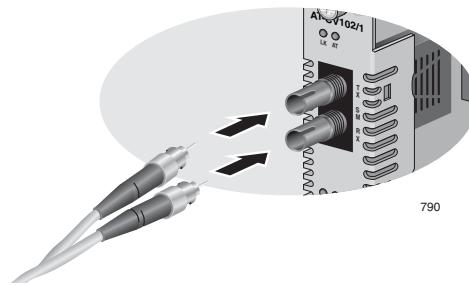

Figure 28. Connecting to the Dual SC Fiber Optic Port
1. Connect the appropriate optical cable to the port, as shown in Figure 28.